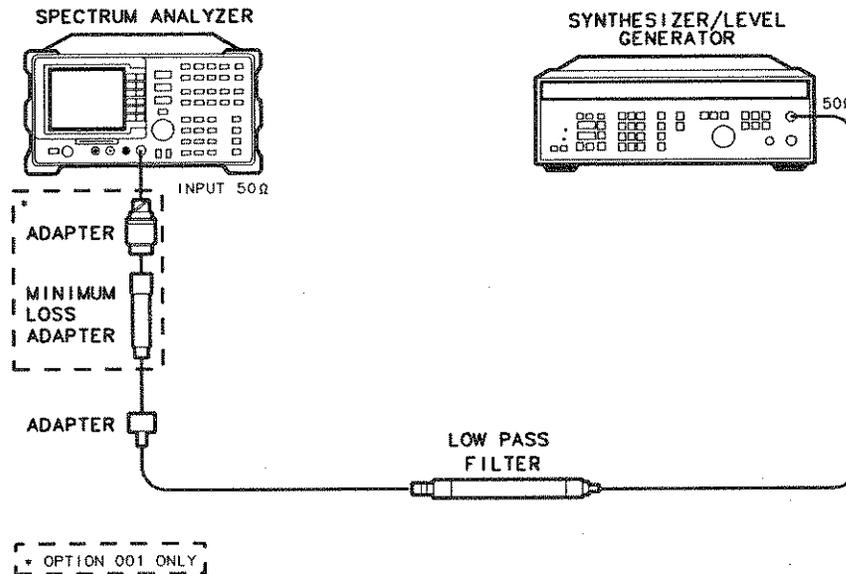

Figure 3-18. Second Harmonic Distortion Test Setup, 30 MHz
2. Connect the equipment as shown in Figure 3-18. (*Option 001*: Connect the HP 11852B between the LPF and INPUT 75Ω).